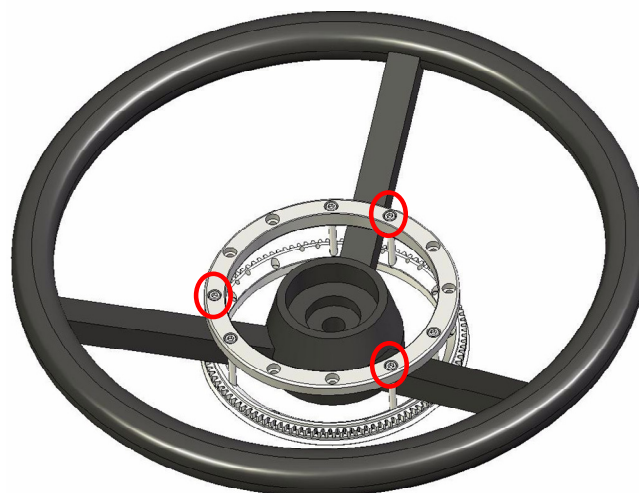

Figure 8 - Main Gear Centred
3. With the main gear clamped loosely, rotate and move the gear until 3 screws touch the three spokes evenly. Figure 8 shows the main gear rotated counter-clockwise until three of the mounting screws touch the steering wheel spokes evenly. This procedure will help to automatically centre the gear under the steering wheel.